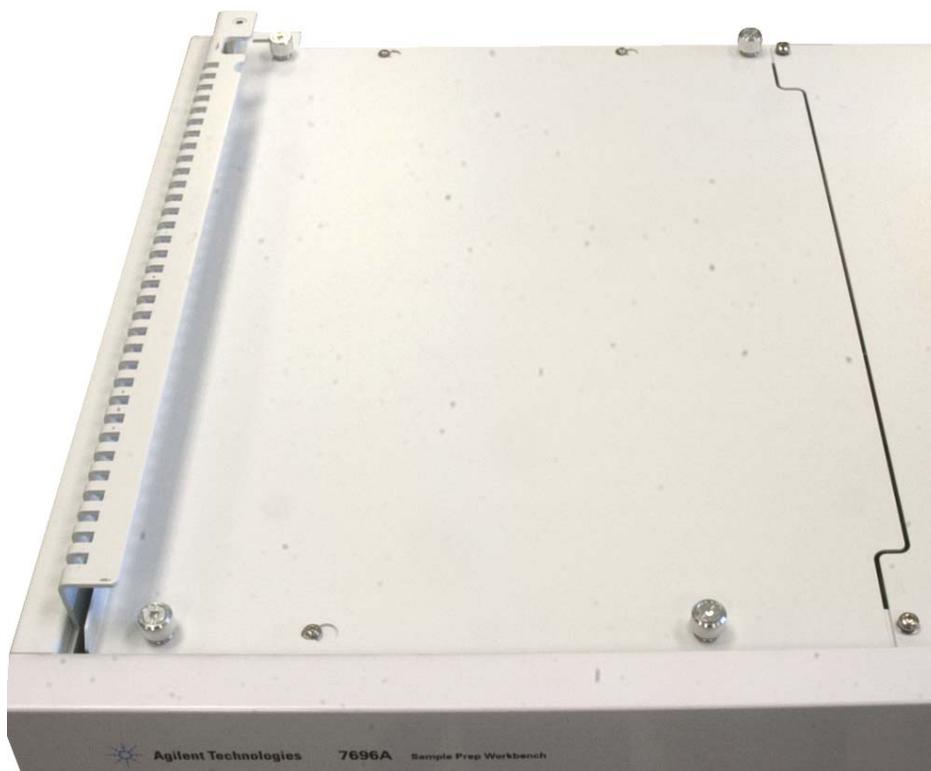

Figure 1 Removing Main Frame top-left panel
- 1 Loosen the thumbscrews on the Main Frame top-left panel (Figure 1).